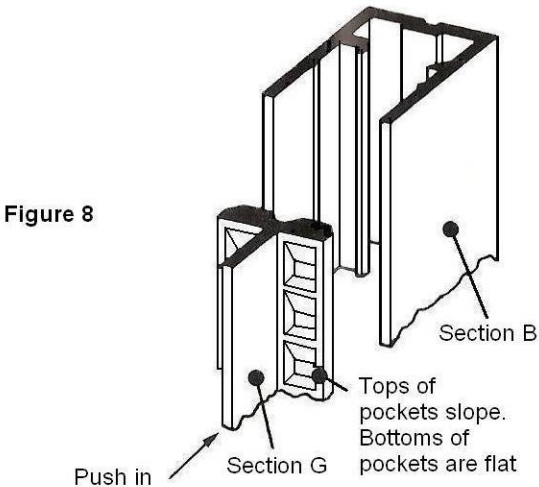

Figure 8
a) Fit as many whole lengths of Section G as possible into the right hand side track (Figure 8). Start from the bottom and push them into the track until they click into position. (Note that the flat edges of the pockets must be at the bottom when installed).